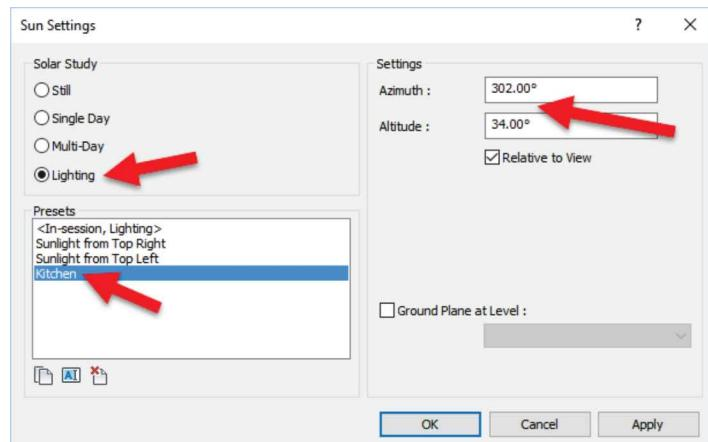

FIGURE 14-4.6 Sun Settings
11. In the interior camera view, create a new item in *Sun Settings* dialog as shown below (Figure 14-4.6).